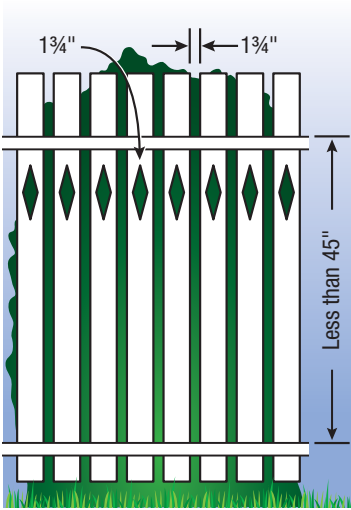

Figure 3
6. Where the barrier is composed of **horizontal and vertical members** and the distance between the bottom and top horizontal members is less than 45 inches, the horizontal members should be located on the swimming pool side of the fence (figure 3).